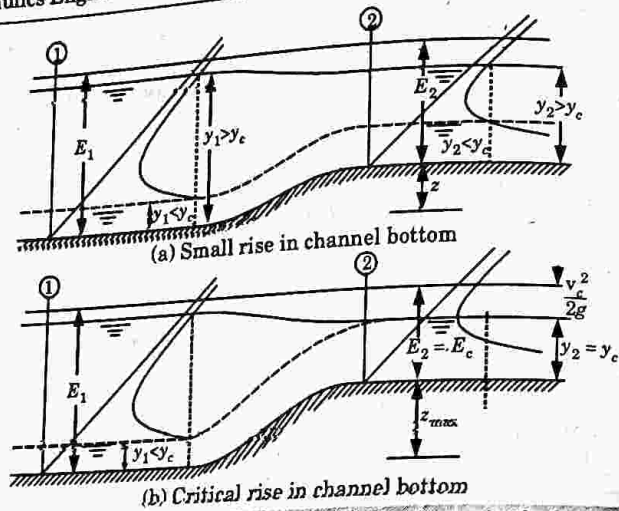

Fig. 2.1.2. Flow in a rectangular channel with a hump in the bottom.
1. Fig. 2.1.2 shows a rectangular channel section with uniform width and having a rise in bottom generally known as hump.
3. The specific energy 'E' is measured with respect to the channel bottom. It is assumed that there is no loss energy between section (1)-(1) and (2)-(2).